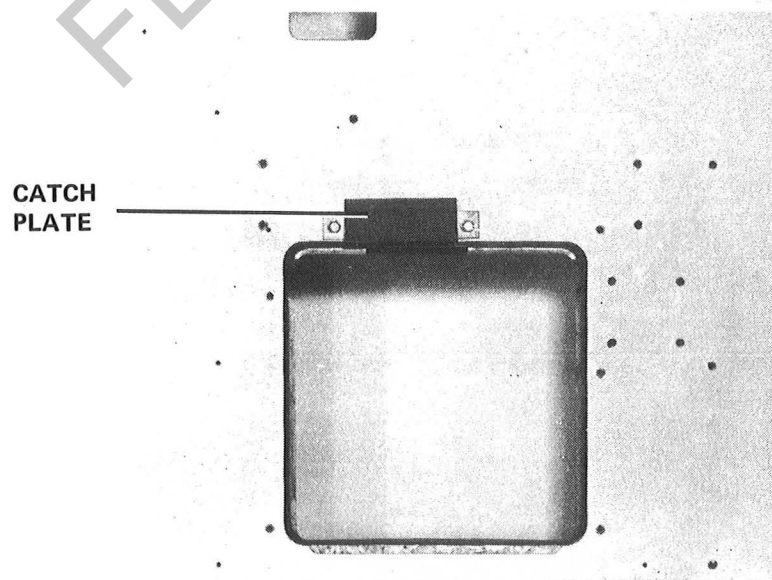

Figure 3.
16. Reinstall Catch Plate, removed in Step 13, in Phonograph Cabinet as shown in Figure 3.